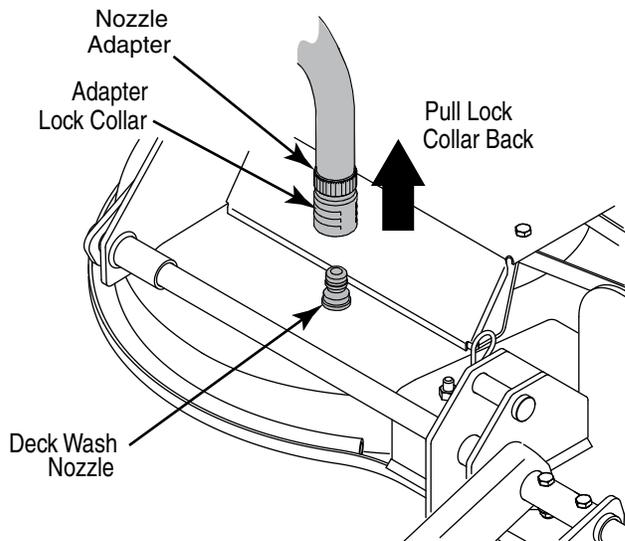

Figure 23
- Attach the nozzle adapter (16) to a standard garden hose connected to a water supply.
- Pull back the lock collar of the nozzle adapter and push the adapter onto the deck wash nozzle at the left end of the mower deck. Release the lock collar to lock the adapter on the nozzle. Refer to Figure 23.